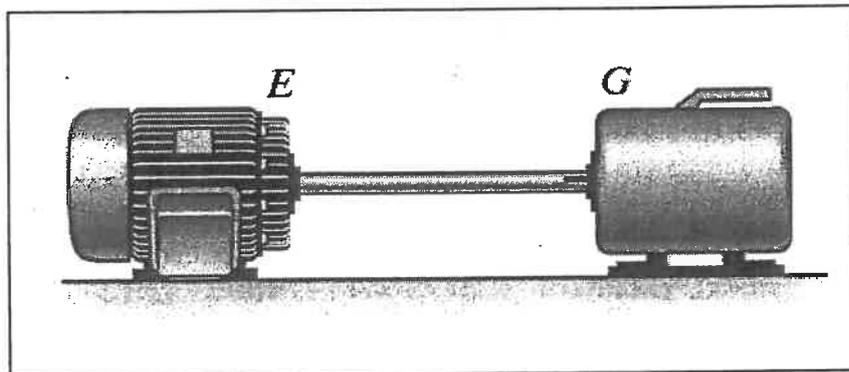
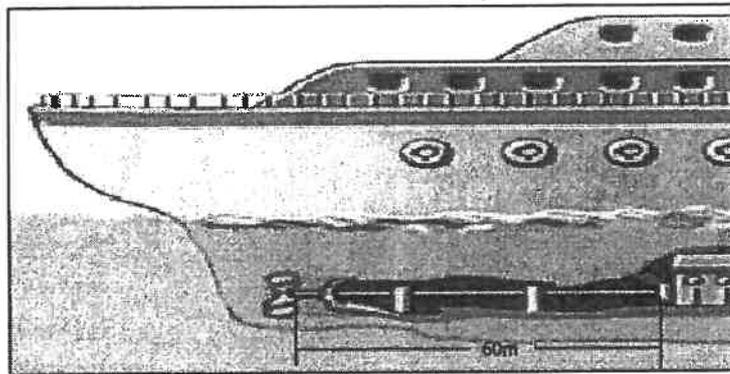

Figure 5
Figure 7
- (a) Figure 5 shows an A-36 hollow steel shaft that is 2 m long and has an outer diameter of 40 mm as shown in Figure 7. The shaft rotates at 80 rad/s and transmits 32 kW of power from engine *E* to the generator *G*. If the allowable shear stress is $\tau_{allow} = 140$ MPa and the shaft is restricted not to twist more than 0.05 rad, determine the smallest thickness of the shaft.
- (a) Figure 7 shows the propeller of a ship connected to an A-36 steel shaft that is 60 m long and has an outer diameter of 340 mm and an inner diameter of 260 mm. If the power output is 4.5 MW when the shaft rotates at 20 rad/s, determine